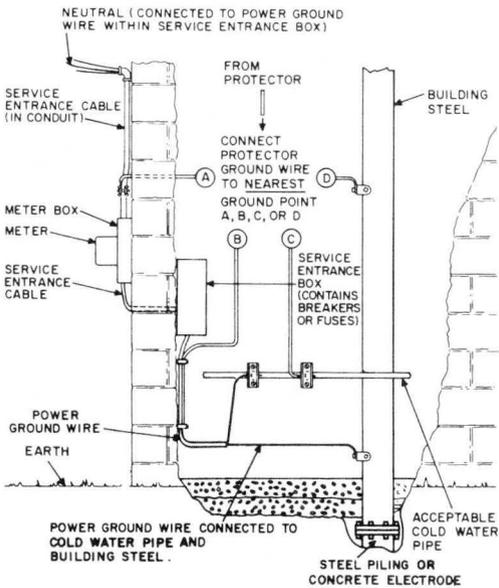

Fig. 45—Acceptable Water System or Building Ground (Power Service Grounded to Cold Water Pipe or Building Steel)
6.04 Station protectors installed at locations with the power grounded to an acceptable water pipe, as described in paragraph 6.01, should be grounded as shown in Fig. 45 or installed directly on the water pipe.
a separate ground rod, and the protector should be grounded as shown in Fig. 45.
6.10 Use Table D to select the best protector ground. Table D is designed to help identify the best ground electrode available for most job situations. The decision blocks contain questions regarding the conditions for grounding, the responses to which will lead to the selection of an acceptable ground. The table should be followed until the last block in the path is reached. The referenced notes and figures (Fig. 45 through 51) provide additional information and installation procedures.